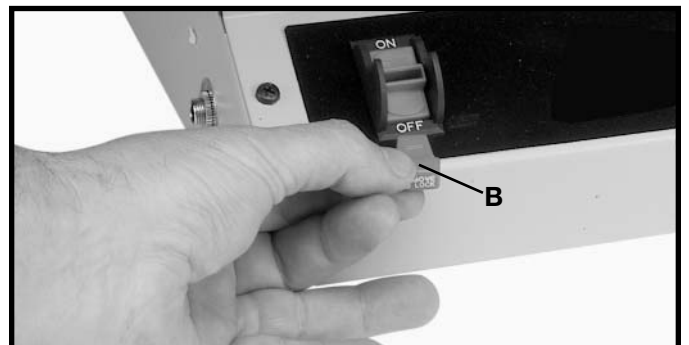

Fig. 15
IMPORTANT: When the machine is not in use, the switch should be locked in the “OFF” position to prevent unauthorized use. This can be done by grasping the switch toggle (B) Fig. 15, and pulling it out of the switch as shown. With the switch toggle (B) removed, the switch will not operate. However, should the switch toggle be removed while the machine is running, it can be turned “OFF” once, but cannot be restarted without inserting the switch toggle (B).